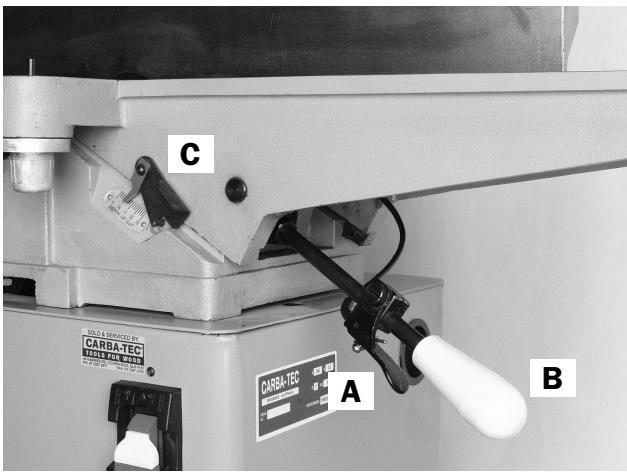
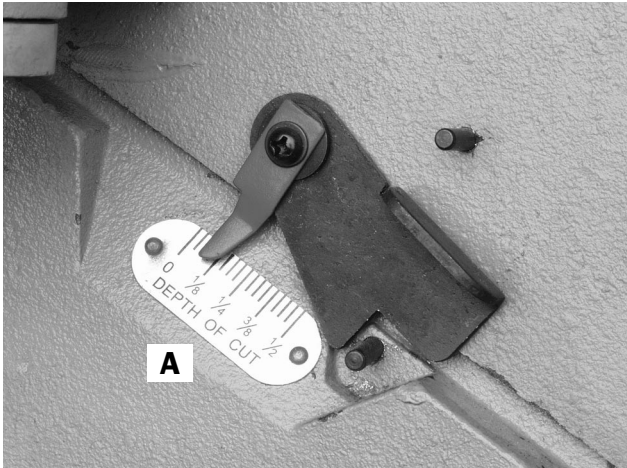

Fig. 9
Fig. 10
The lower the infeed table the larger the cut. Loosen the table lock handle Fig. 8 (A) at the back of the machine and raise the table by releasing the lever Fig. 9 (A) and pushing the handle up or down Fig. 9 (B), the gauge in the front Fig. 10 (A) will tell you exactly what your depth of cut is.